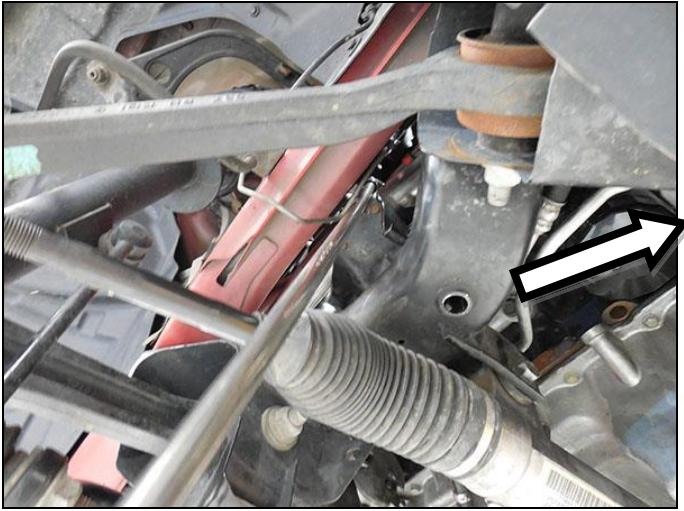

Figure 1 – Access to top bolts passenger's side
3. Hang the **RIGHT** 70302301-RHKR header assembly on to the bolts and install the four remaining top bolts. Access to most of the header bolts can be done with the 24" extension and a 13mm swivel socket through the primary tubes (see **Figure 1**).